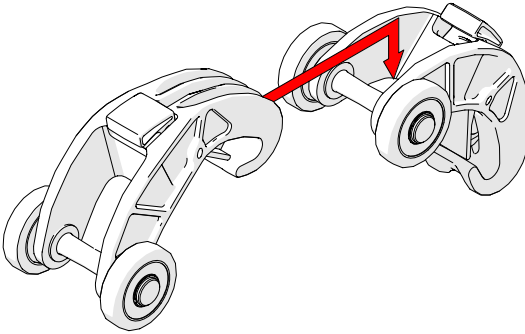

Fig. 39 - Lift the hook over the axle of the QuickLink
1. Lift the hook of the QuickLink over the axle of the QuickLink that is to be connected (Fig. 39).